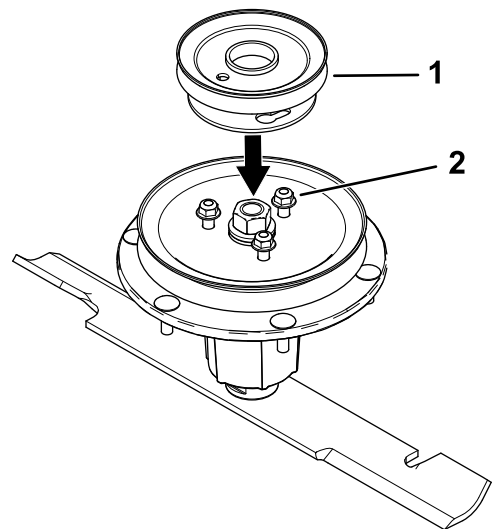

Figure 5
6. Align the new pulley assembly so that the openings fit over the nuts (Figure 5).